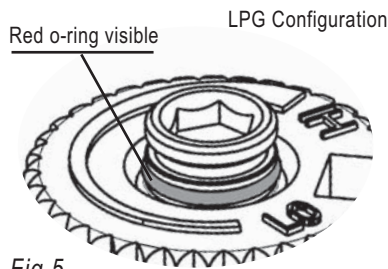

Fig. 5
- 14) Verify that if the conversion is from NG to LPG, the screw must be re-assembled with the red o-ring visible (Fig. 5).